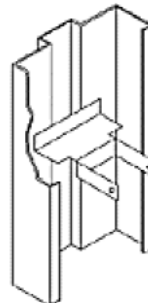
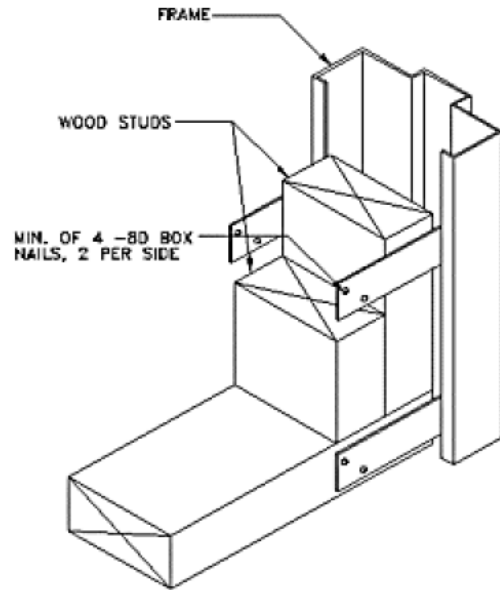
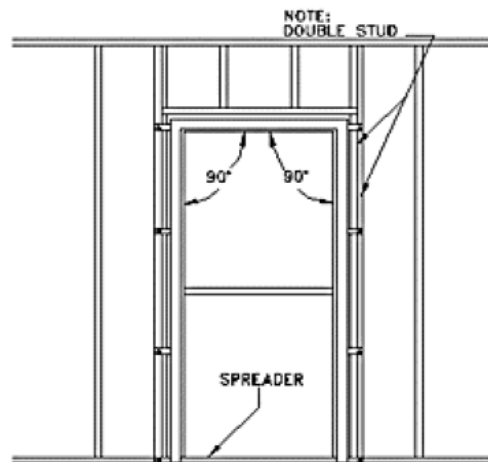

Figure 6A
Figure 19
Figure 20
4. Wood Stud Anchors: (Figures 6a and 6b) Both types of wood stud anchors shown are welded to the back of the jamb. They meet fire label requirements. Loose twist in anchors are not recommended.
Note: See Figures 19 and 20 for typical installation for wood studs and Figures 6a and 6b for examples of wood stud anchors. (Figure 19) (Figure 20)